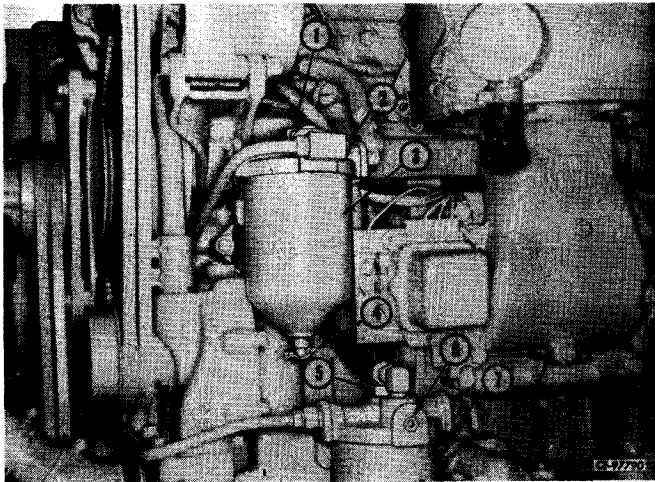

Figure 2-24
A replaceable element type fuel strainer (7, Fig. 2-24) and fuel filter (3) are used in the fuel system to remove impurities from the fuel. The strainer removes the larger particles and the filter removes the small foreign particles.
1. Turn engine off and place a suitable container under fuel strainer or filter. Open petcocks (4, Fig. 2-24). The fuel will drain more freely if the cover nuts (1, 5) are loosened slightly.
7. Remove plug (6) in strainer or filter cover (2) and fill shell with fuel.